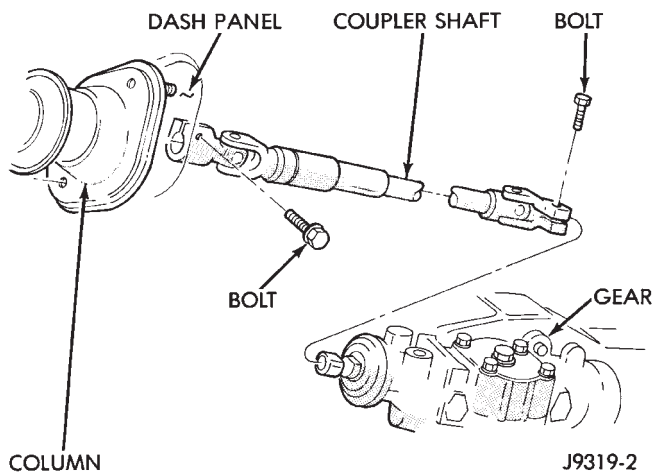

Fig. 10 Column Coupler Shaft
(1) Make sure the front wheels are in the **straight ahead** position.
(2) Observe Cautions and disconnect the negative (ground) cable from the battery.
(3) Disarm airbag, refer to Arming/Disarming Airbag in this section.
(4) Remove column coupler upper pinch bolt (Fig. 10).
(5) Remove steering wheel and airbag from column, refer to Steering Wheel-Removal and observe Cautions/Warnings.